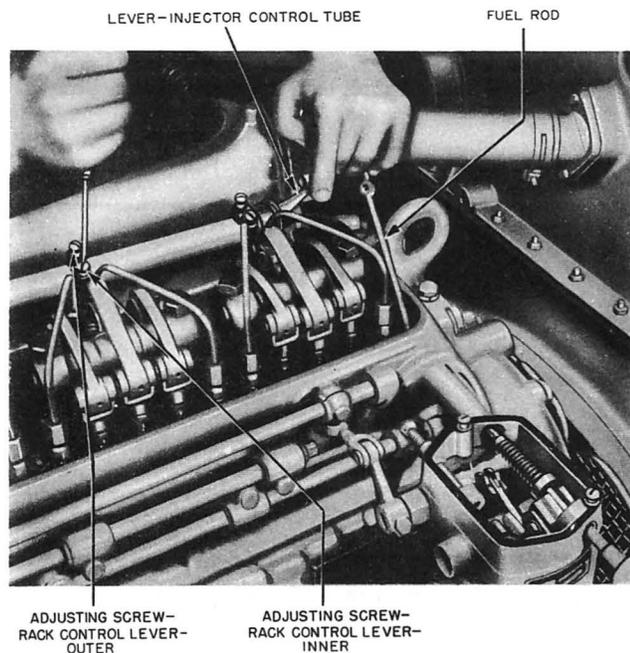

Fig. 8 - Adjusting No. 2 Injector Rack
(4) Under the conditions mentioned in (3)(a), an injector may be installed, valves lashed, injector timed, and the rack positioned to correspond with that of the other racks without repositioning the racks of the remaining injectors, unless it happens to be the No. 1 injector, in which case the procedure would then fall in the class of (3)(b).
(5) To position an injector control rack for condition (3)(a), back off several turns on both the inner and outer adjusting screws (see Fig. 8) on the rack control lever at the injector being adjusted. Hold all the injector racks all the way IN (Full fuel position) by pushing the injector control tube lever to full fuel position. Adjust rack control lever to the full IN position by slowly turning down inner adjusting screw until injector rack can just be felt striking "bottom" and the other racks can be seen to just begin moving OUTWARD. Then tighten down outer adjusting screw and lock inner screw. After positioning rack control lever, check to see that the other racks have not moved out, by inserting a screw driver under the control tube and pressing inward on the end of an adjacent injector. If correct, there should be no further inward travel
disconnect the fuel rod between the governor and the injector control tube lever. Move the injector control tube lever to hold the No. 1 injector rack in the full-fuel position and adjust the No. 2 rack (see Fig. 8). Turn the inner adjusting screw in until the injector rack can be felt striking "bottom". Tighten the outer adjusting screw. Check No. 1 and No. 2 rack with finger tip for rotary movement. If rotary movement of No. 2 rack feels different, correct by readjusting No. 2 rack. When No. 2 rack coupling feels the same as No. 1, repeat the operation on the remaining injector racks in numerical order. After all the racks have been positioned and feel alike, replace the clevis pin to connect the fuel rod again to the injector control tube lever. Following this, check the clevis pin to see that it rotates freely since binding in this pin will result in erratic governor operation.